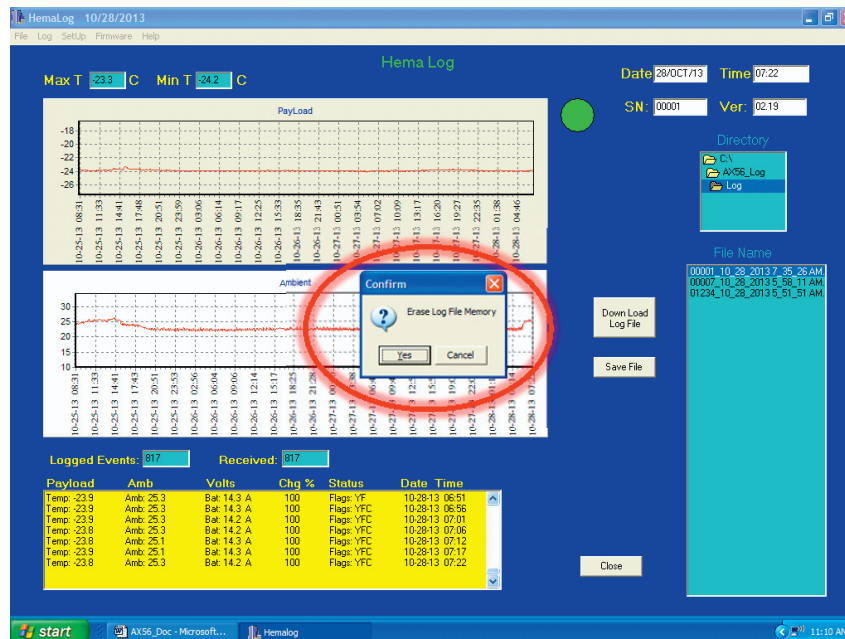

Figure 48. Example of an Erase Screen
- **Erase** screen (Figure 48) allows the user to erase the contents of the stored log file.
Click **Yes** on the **Confirm** dialog box to erase the onboard memory on the AX56L unit or click **Cancel** if you do not want to erase the memory (Figure 48).